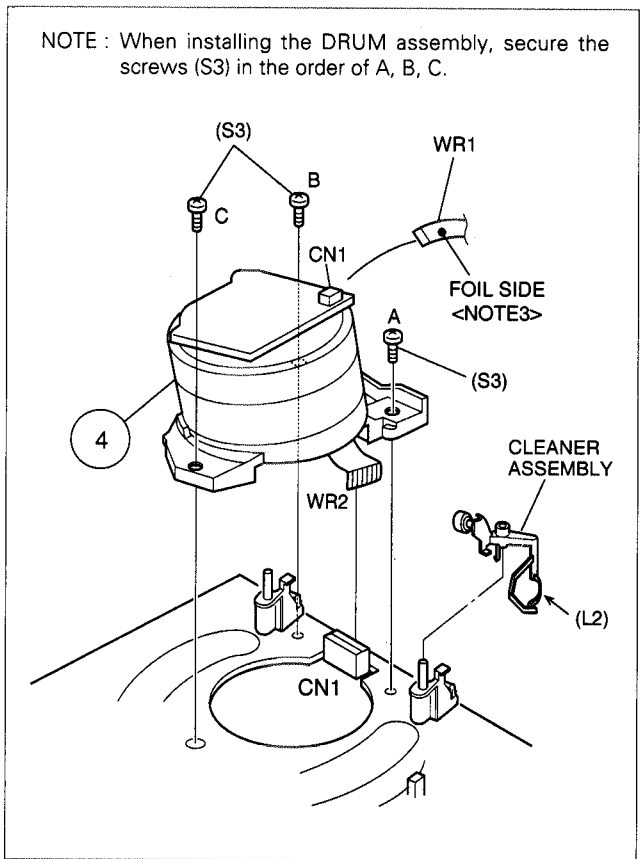
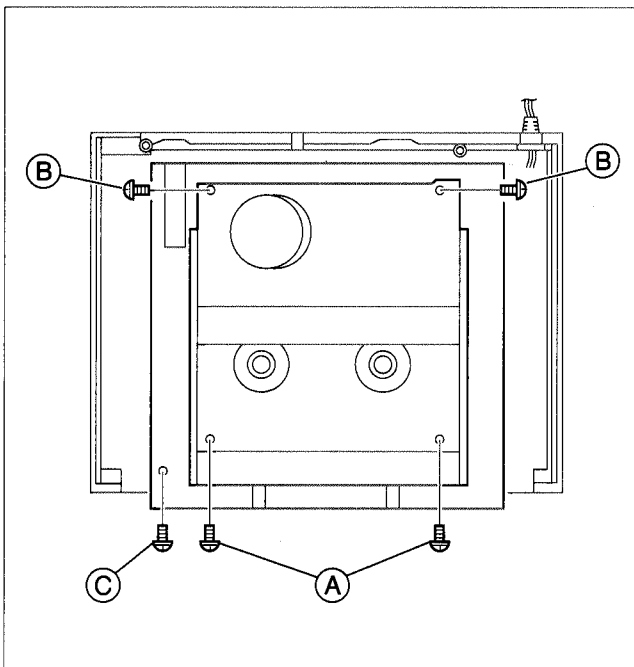

Fig. D4
Fig. 1-4-1
- (1) Remove the Top cover, Bracket and Front panel assembly. (See 1.3 DISASSEMBLY/ASSEMBLY METHOD. Take care not to pull the drum wire (Fig.D4) from CN1.)
- (2) Lower the cassette holder, and make the preparations required in order to remove the screws from the Mechanism assembly. (Refer to the "Procedures for Lowering the Cassette holder assembly" on pages 1-3 of 1.3 DISASSEMBLY/ASSEMBLY METHOD.)
- (3) Take out 2 screws (A), 2 screws (B) and 1 screw (C) as shown in Fig. 1-4-1.